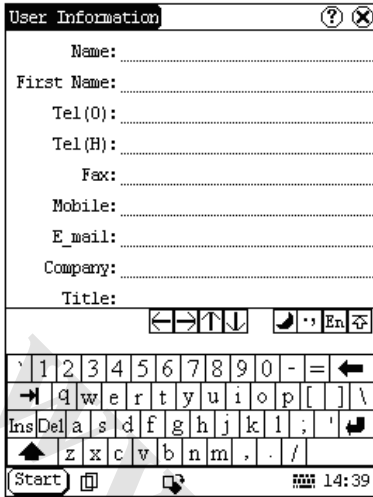

Figure 4-04
- 3) Click the characters on Soft Keyboard to enter data. (Refer to Figure 4-04)